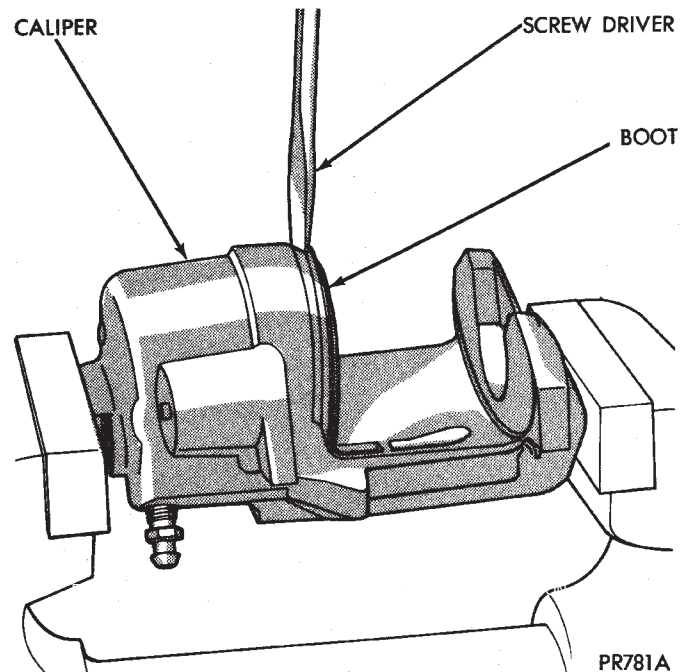

**Fig. 160 Removing Caliper/Piston Dust Boot**
(3) If both front caliper pistons are to be removed, disconnect brake tube at flexible brake hose at frame rail. Plug brake tube and remove piston from opposite caliper using the same process as above for the first piston removal.
(4) Disconnect the brake fluid flex hose from the caliper assembly.
(5) To disassemble caliper, mount in a vise equipped with protective jaws.
(6) Remove guide pin sleeves and guide pin bushings. See Removing Guide Pin Bushings in the caliper disassembly section of this manual.
(7) Remove the piston dust boot from the caliper and discard (Fig. 160).